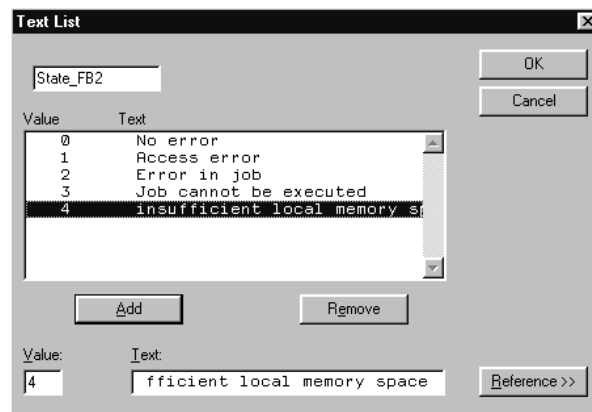

Figure 8-5 Symbol list-Text dialog
5. In dialog field **Value**, enter the error number as specified in Table 6-7 and in dialog field **Text**, the error text. When you press button **Add**, the entry is transferred to the symbol list field (see Figure 8-5).